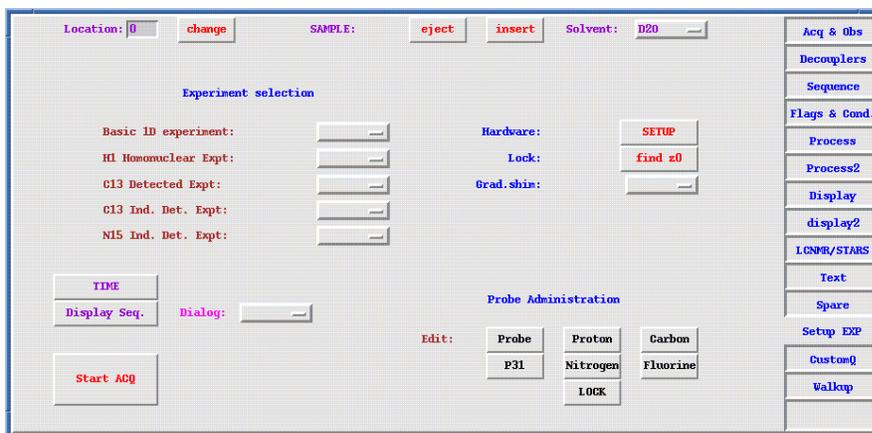
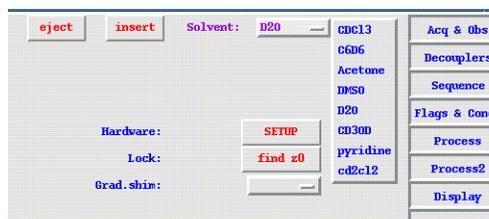

Figure 35. Setup EXP Window
Figure 36. Setup EXP - Changing Samples
1. Click the **Setup EXP** button in the right side of the Tcl/dg window. The Setup EXP window shown in Figure 35 is displayed. Do the following steps to set up and customize the experiment.
2. Select the solvent in the sample management region of the window (Figure 35) by holding down the left mouse button on the solvent menu (Figure 36) and choosing the appropriate solvent from the solvent menu list.
4. Click on the **Eject** and **Insert** buttons (Figure 36) in the sample management region of the **Setup EXP** window (Figure 35) or, from the command line, use the `e` command to eject the sample and the `i` command to insert a new sample.